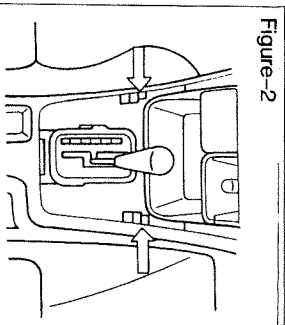

Figure-2
- Remove the tray by removing the two screws indicated by arrows in Figure-2.